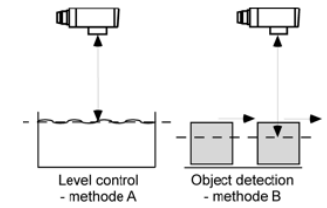

Fig. 2: Adjustment of the switching point when the object moves in different directions
- If the object to be scanned moves into the detection area from the side, the »Set detect point +8 % – method B« Teach-in procedure should be used. In this way the switching distance is set 8 % further than the actual measured distance to the object. This ensures a reliable switching distance even if the height of the objects varies slightly, see fig. 2.